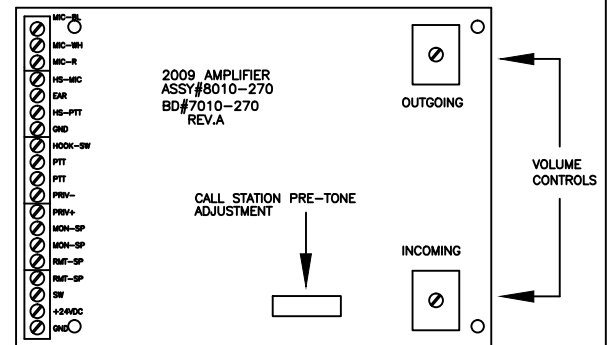

FIGURE 3 - 2009 AMPLIFIER BOARD
4. ADJUST THE VOLUME CONTROLS (SEE FIGURE 3)